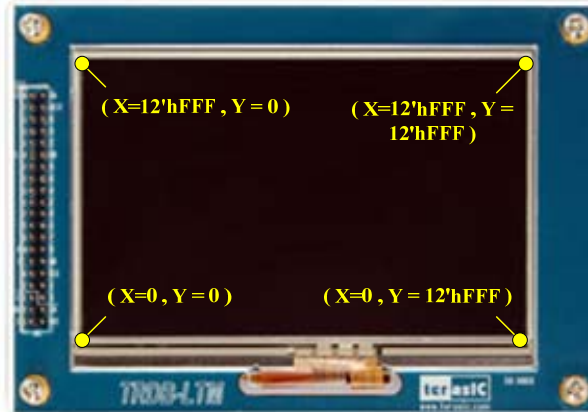

Figure 4.7 The x and y coordinates of the corners on the LTM touch screen
- When users touch the LTM screen, the 7-segment displays "HEX6~HEX4" and "HEX2~HEX0" on the DE2 board will display the X and Y coordinates (in Hexadecimal format) of the touch point respectively (DE2 board only). Figure 4.7 indicates that the x and y coordinates of the corners on the LTM touch screen